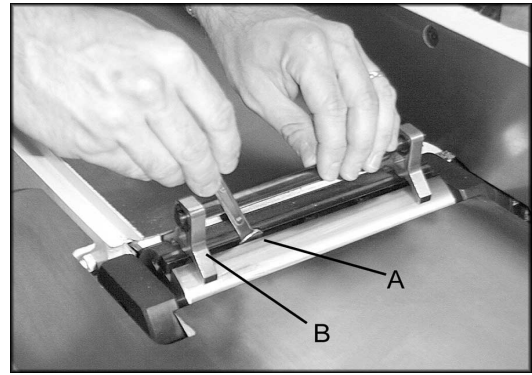
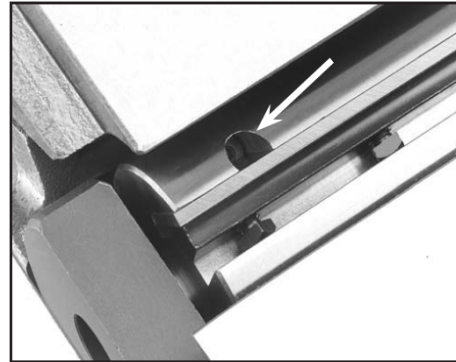

Figure 13
Figure 14
7. If blade is higher or lower at one point, Loosen cutterhead gib bolt (A, Figure 13) by turning clockwise as viewed from the infeed table.
8. Place the knife setting gauge (B, Figure 13) on the cutterhead over the blade. Find the jack screws through the access holes in the cutterhead(Figure 14) and rotate the jack screws to raise or lower the knife. When the knife is set correctly, it will barely touch the middle pad of the knife setting jog. Snug the gib bolts tight enough to just hold the knife in place. Repeat STEP 7&8 with the rest of the knives.